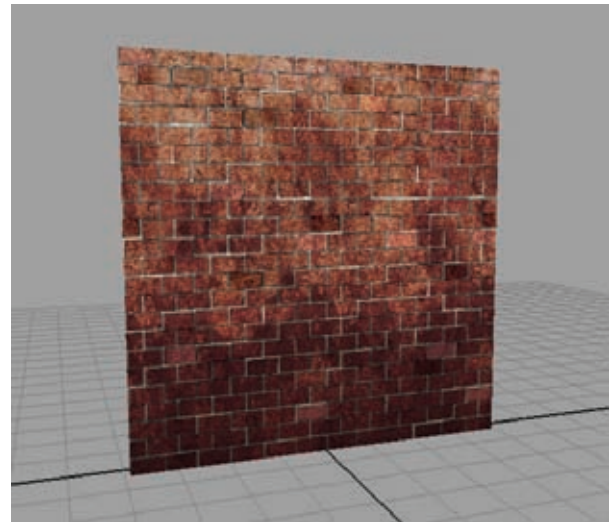

Figure 1.21
12. Save the .psd file so you can make any future adjustments that may be necessary and save it as `Brickwall_Diffuse.tga`. Apply the new texture to your wall to see how it looks so far (Figure 1.21).